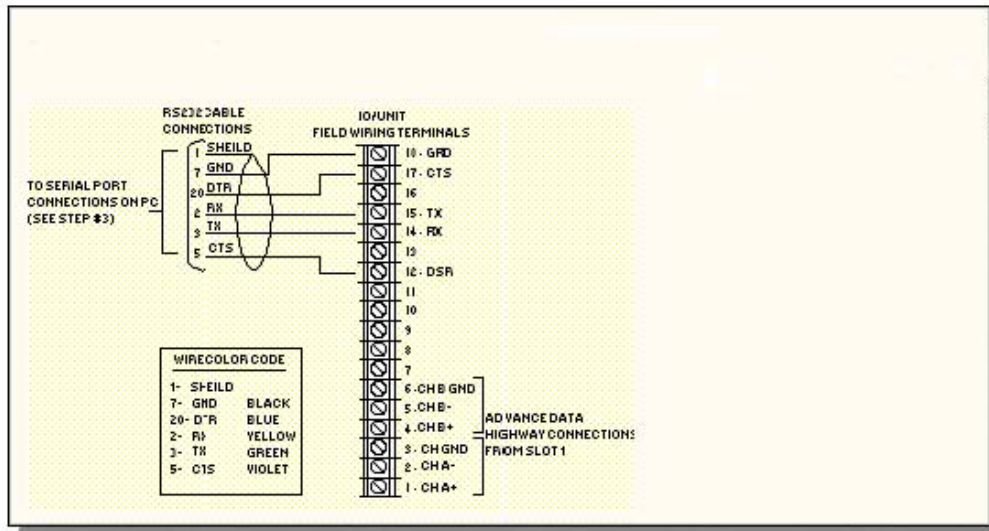

Figure 7. PCI Field Wiring Connections for I/O Unit
1. Locate the terminal strip associated with slot 1 on the rear of the I/O chassis. Slot 1 houses the I/O Unit Interface Board (IOUI). Referring to Figure 7 wire the Data Hiway jumper connections from slot 1 terminals 1 thru 6, to the PCI field wiring terminals 1 through 6. You must use 22 AWG or larger wire for the jumper connections.